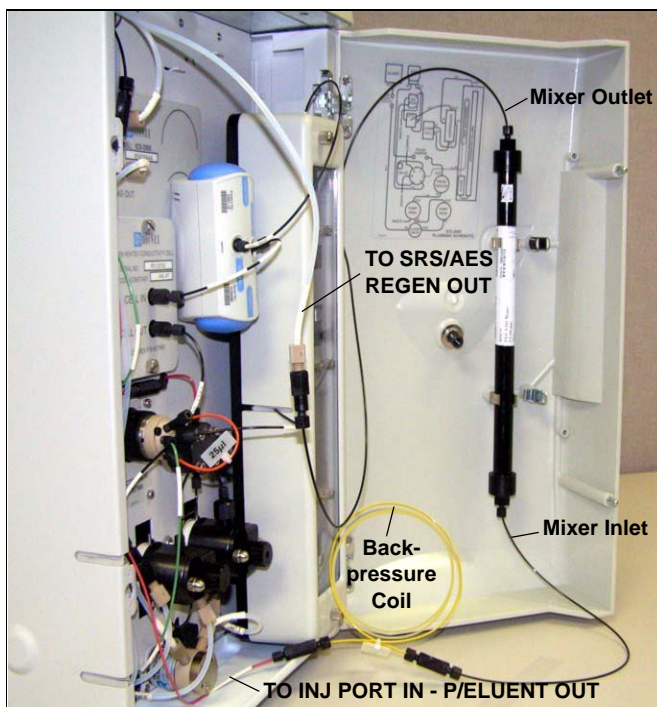

Figure B-73. Mixer Connected Directly to Eluent Generator Outlet for Initial Filling
4. Disconnect the outlet of the yellow PEEK backpressure coil from the **TO SRS/AES REGEN OUT** line and then connect the backpressure coil to the mixer inlet (see Figure B-73).